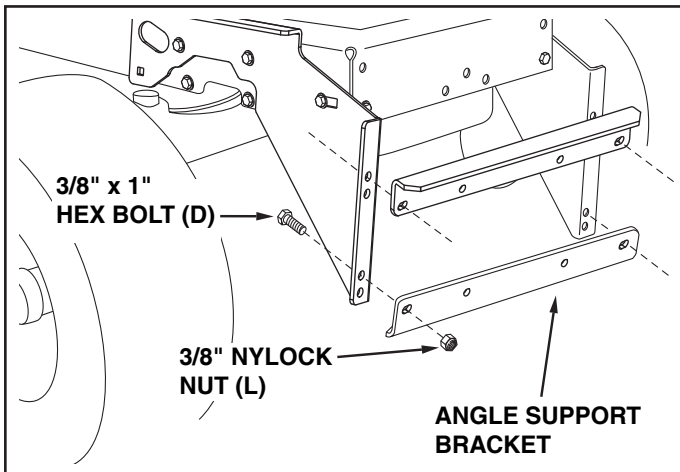

FIGURE 9
STEP 1: (SEE FIGURE 9)
- Assemble one angle support bracket to the topmost set of holes in the hanger brackets using two 3/8" x 1" hex bolts (D) and 3/8" nylock nuts (L). Assemble the second angle support bracket to the second from the bottom set of holes in the hanger brackets using two 3/8" x 1" hex bolts (D) and 3/8" nylock nuts (L). Be sure the brackets are turned as shown. **Do not tighten yet.**